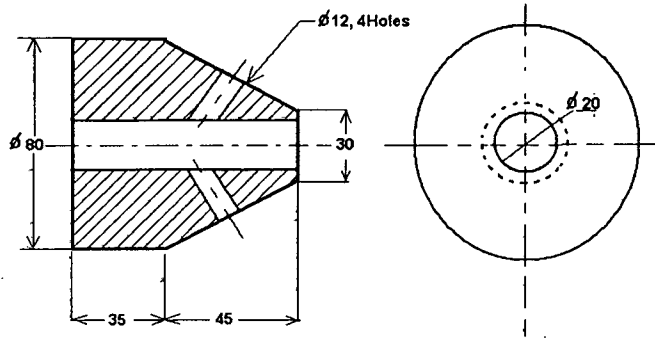

Fig.12.b
- i) Determine the press tonnage and the various stations required (3)
- ii) How is the center of pressure to be determined for this die layout? (2)
- iii) Design all the parts of the die. (5)
- iv) Draw two fully dimensioned views of the die in engaged position. (8)
- v) Give a neat parts list. (2)
12.a) Design a drilling jig for use when drilling the two ϕ 30 holes in the base of the component shown in Fig. 12 a
- i) Give a neat operation chart. (2)
- ii) Draw two views of the Jig. (12)
- iii) Specify appropriate fits and tolerances for critical parts. (3)
- iv) Dimension the views and give a neat parts list. (3)
12.b) Design an indexing jig for use when drilling the 4, ϕ 12 inclined holes in the component shown in Fig12.b.
- iii) Specify appropriate fits and tolerances for critical part. (3)